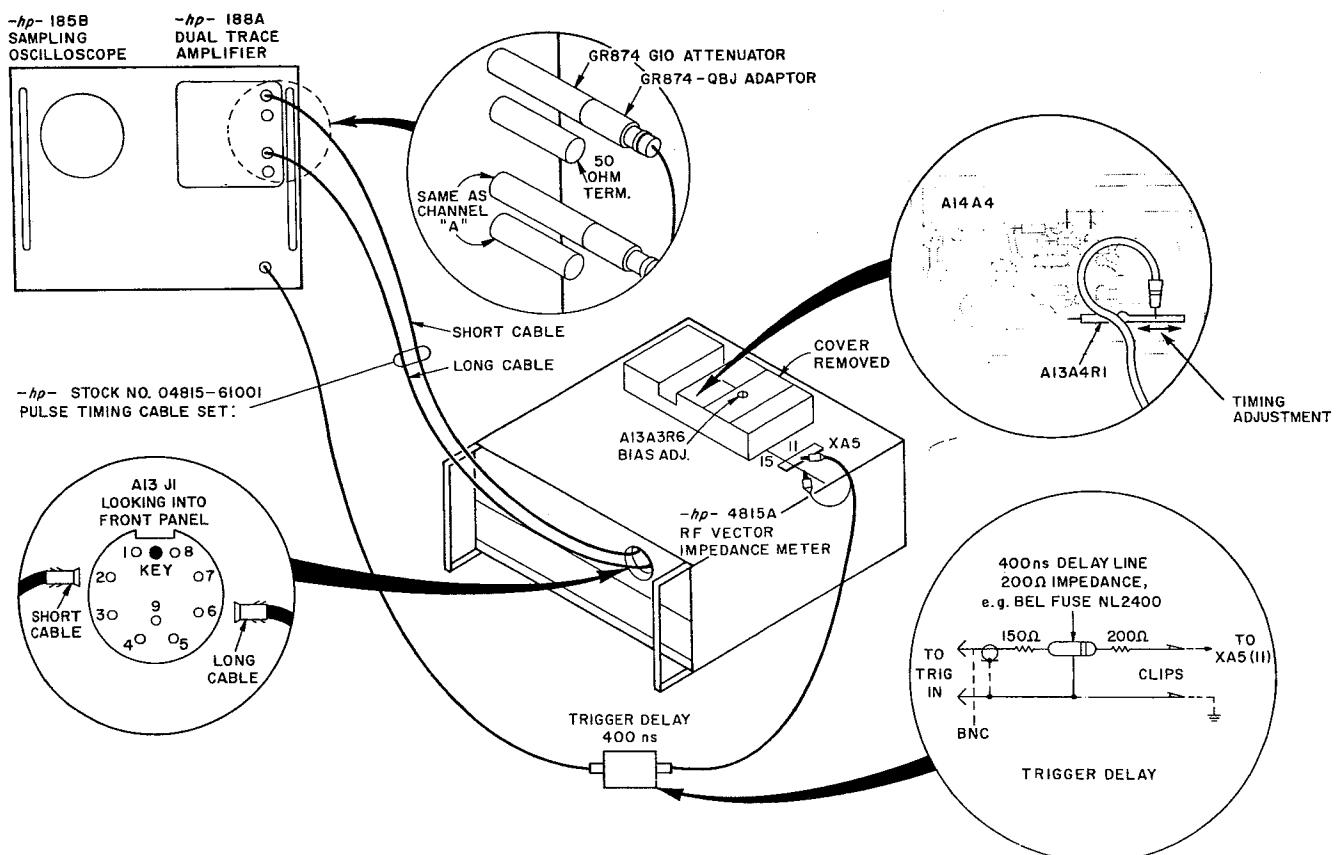

Figure 5-10. Setup for Pulse Generator and Timing Adjustments
- Connect equipment as shown in Figure 5-10. Short cable of 04815-61001 Pulse Timing Cable Set is connected to A13J1 (2), the longer one to A13J1 (6).
CRT. Pulse peaks should not be separated by more than 100 picoseconds (See Figure 5-11 B). Adjust connection point of A13W9 (See Figure 5-10 for detail) until timing is correct. If A channel pulse app appears first in time, move connection point toward A13A4R1, a 470 Ω resistor. If B channel pulse appears first, move connection point away from A13A4R1. Move connection only 1/16 " at a time, resolder, check timing and readjust as necessary.